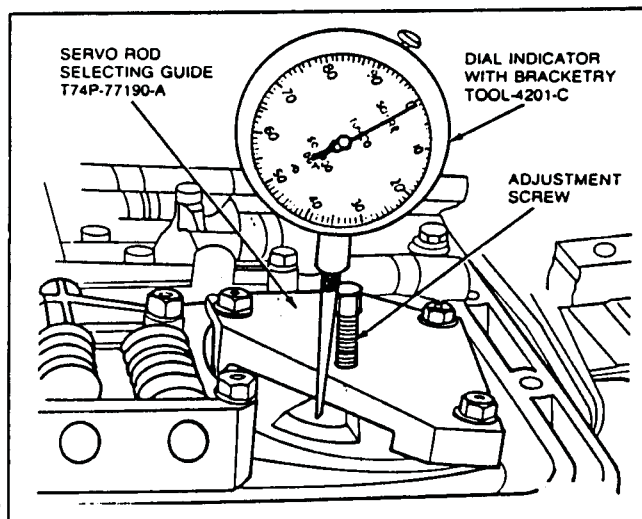

**FIG. 53 Control Valve Body Installation**
23. Attach and lock the selector lever connecting rod (Z-link) to the manual valve and ease the control body into the case. **CAUTION:** Use care not to bend selector lever connecting rod (Z-link) (Fig. 53).